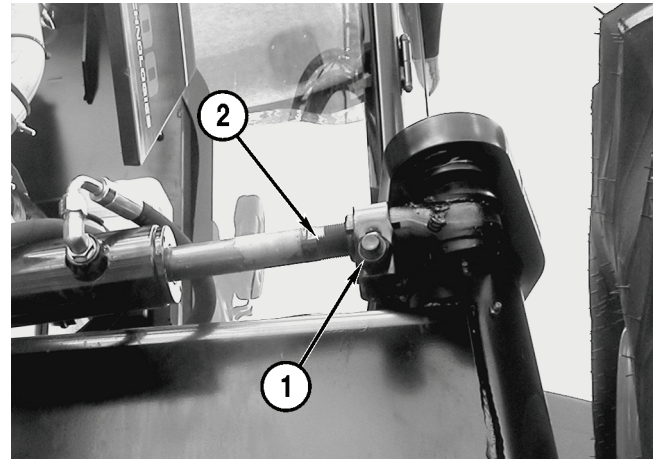

Figure 5-63
1. Loosen the nut and bolt on the steering cylinder clamp (**Figure 5-63, 1**).
2. Use a wrench on the ball joint end (**Figure 5-63, 2**) to adjust the spacing.